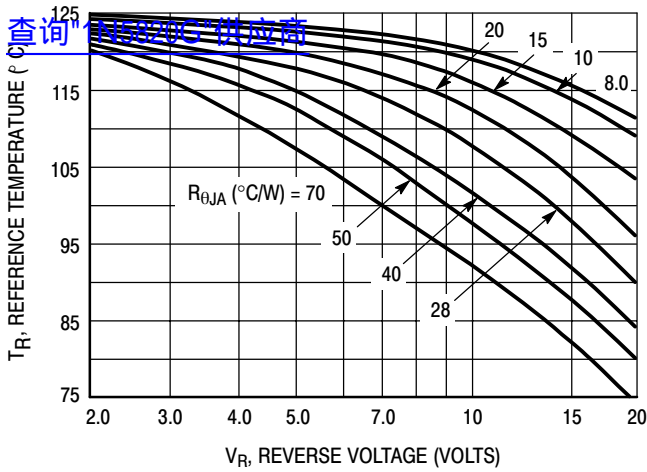

Figure 1. Maximum Reference Temperature
Figures 1, 2, and 3 permit easier use of equation (1) by taking reverse power dissipation and thermal runaway into consideration. The figures solve for a reference temperature as determined by equation (2).
Inspection of equations (2) and (3) reveals that  $T_R$  is the ambient temperature at which thermal runaway occurs or where  $T_J = 125^\circ\text{C}$ , when forward power is zero. The transition from one boundary condition to the other is evident on the curves of Figures 1, 2, and 3 as a difference in the rate of change of the slope in the vicinity of 115°C. The data of Figures 1, 2, and 3 is based upon dc conditions. For